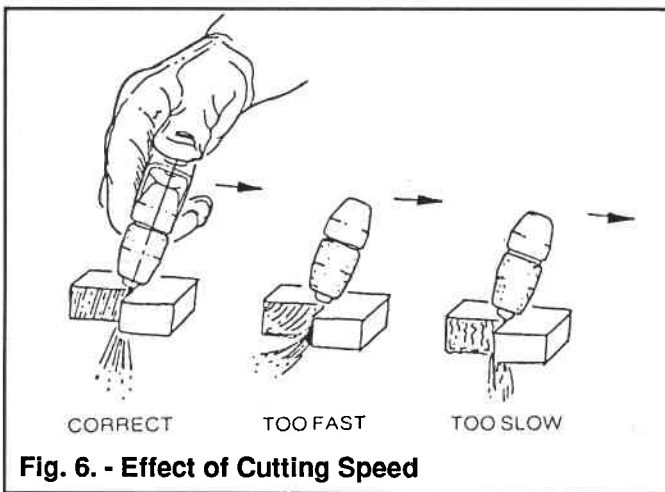

Fig. 6. - Effect of Cutting Speed
1. Hold the tip of the torch on or within 0.5mm of the workpiece where cutting is to start. To prevent damage to the tip from splash back or spatter it is recommended that the torch is held at a 15-30° angle from the vertical in a slightly trailing mode, see Fig. 6.